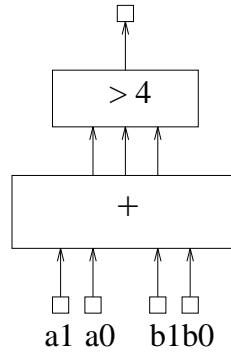

Figure 1: Cascaded designs
- (a) Describe the set of functions $f : B^4 \rightarrow B^3$ which can be “safely” substituted for the adder element in the design shown in figure 1. (By safely, we mean the overall function from inputs a, b to the output remains unchanged). What is simplest circuit that can safely replace the adder block?